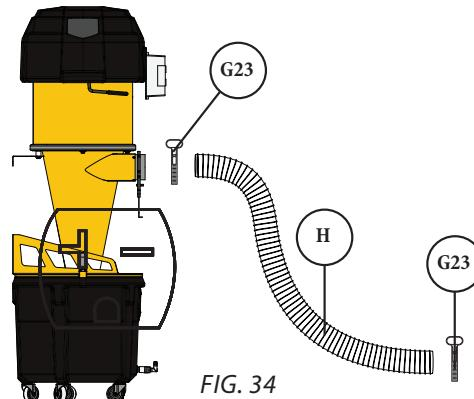

FIG. 34
- 34** Connect the Supercell to your tools or ductwork using the Vacuum Pressure-Rated Hose (H). Secure the hose in place using Hose Clamps (G23) at both ends [FIG. 34].